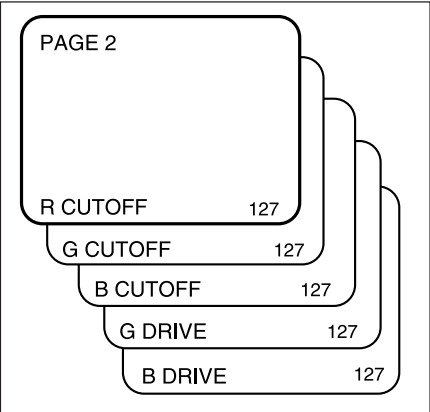

Fig. 2-1
- Using the volume keys on the jig remote controller, fix the figure of the strongest color on the screen to the level 127 and adjust the other 2 cut off figures until a white picture appears on the screen. Fig. 2-1